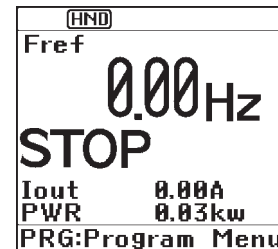

Figure 5.19 Display of the LCD Monitor after Power-on
- (1) Check that the LCD monitor displays 0.00 Hz (indicating that the reference frequency is 0 Hz) that is blinking. (See Figure 5.19.)